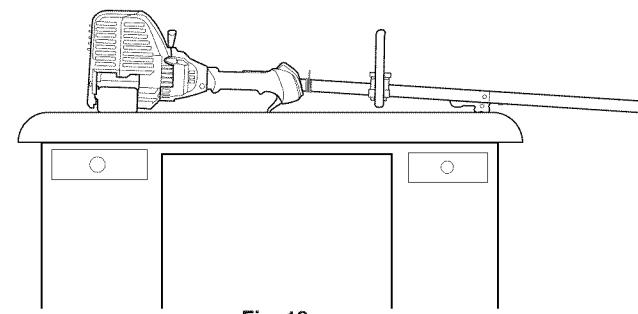

Fig. 18
2. Set the unit on a flat, level surface, such as a workbench or table. The cutting head shield should hang over the edge so that the engine is level (Fig. 18).